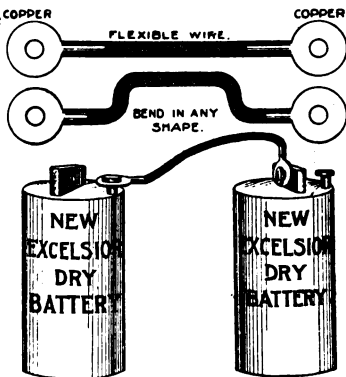

Fig. 45.
**WIRING.**—Too much stress cannot be placed on the proper wiring. To attain good results your machine **must** be wired with good heavy rubber-covered, flexible, stranded wire, especially on the secondary wire which carries the higher voltage from the coil to the plug. The other wires need not be so heavily insulated, but a Number 12 size flexible, rubber-covered, stranded copper wire should be used. Fig. 44 shows actual size of a heavy cable suitable for the secondary wiring and Fig. 45 shows actual size for the primary wires.